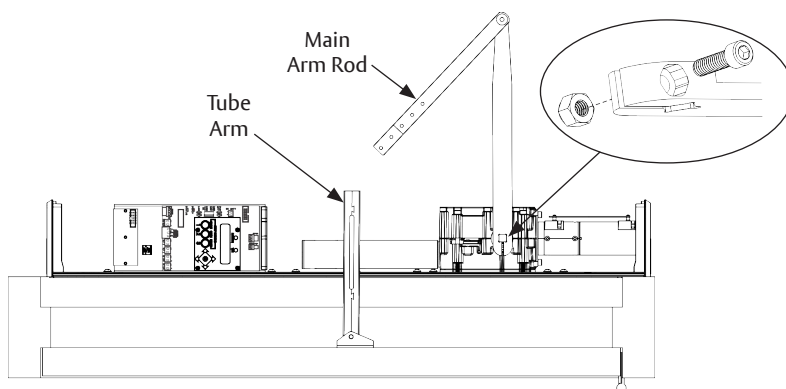

Figure 12 View: Looking up from floor
1. Using hex wrench, secure main arm to bottom pinion with screw and nut. (Figure 12)
2. Slide main arm rod into tube arm. (Figure 12)